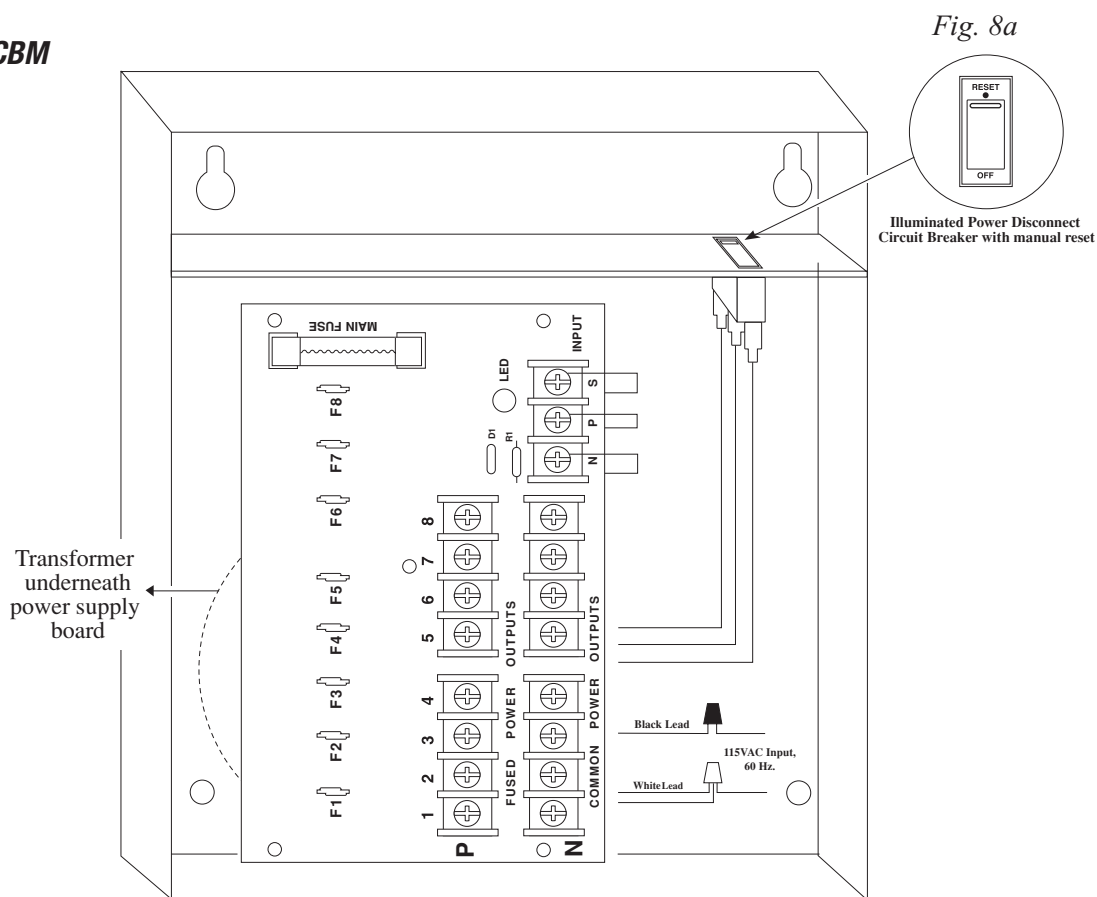

Fig. 9
8. Connect devices to terminals marked [1P - 1N] through [4P - 4N] on PD4/PD4CB board (*Figs. 9, 10, pgs. 9, 10*) or terminals marked [1P - 1N] through [8P - 8N] on PD8/PD8CB board (*Figs. 1-8, pgs. 5-8*), carefully observing polarity.